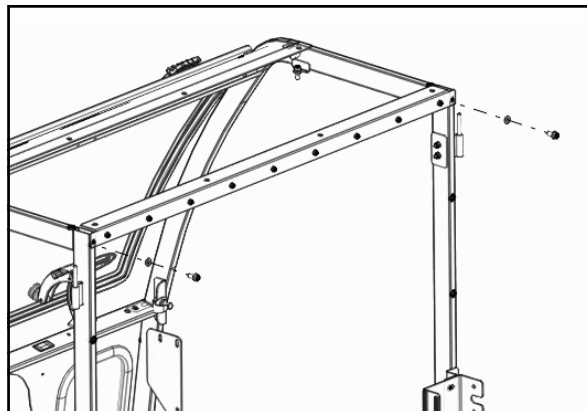

Fig. 8.1 (Rear Curtain Header Installation)
**8.1** Set the rear panel header in place and start two bolts with plastic washers in the rear panel header. See Figure 8.1.